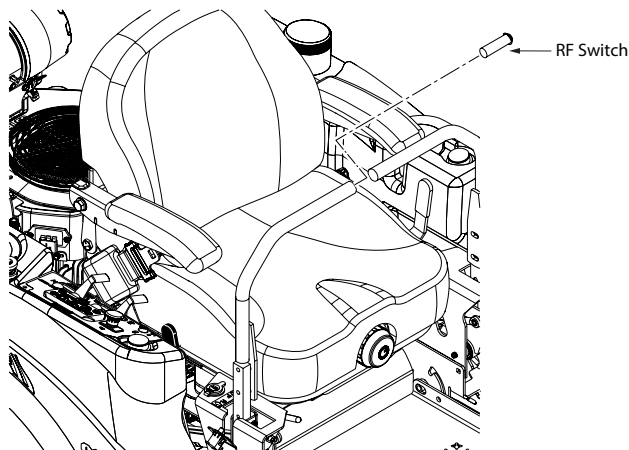

Figure 3-30. RF Switch Installation
1. Install the RF control module inner and outer mounting brackets to the frame using three (3) 1/4" - 20 x 2 1/4" bolts and three (3) 1/4" elastic stop nuts. See Figure 3-30.